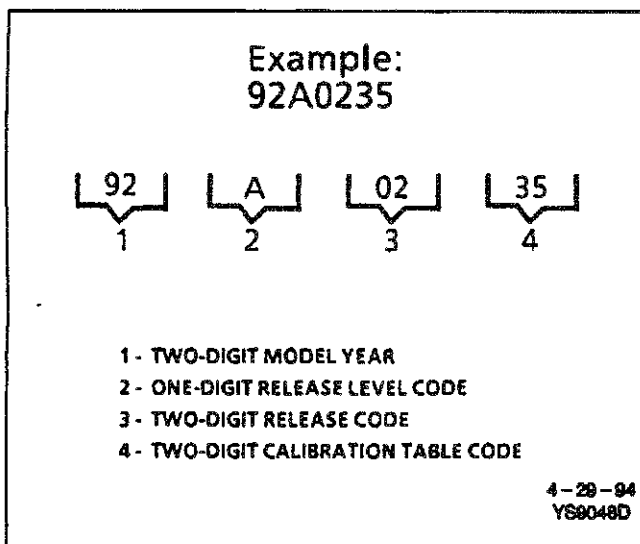

Figure 5 - Software Version Number
- D. See Figure 5 for version number identification, note that the number 16 Data ID Number will not be displayed, due to the length of the version number.